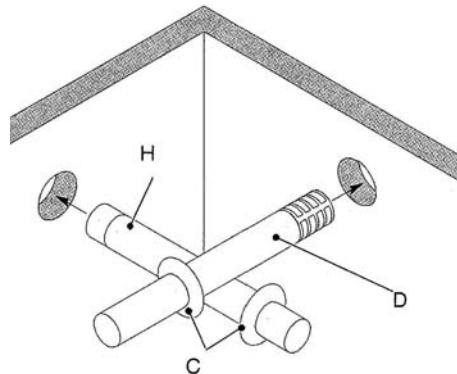

Figure 3
Install the intake (H) and exhaust (D) terminations through the corresponding exterior walls as shown in Figure 3. Slide the wall gaskets (C) onto each of the pipes to secure the pipe against the wall.